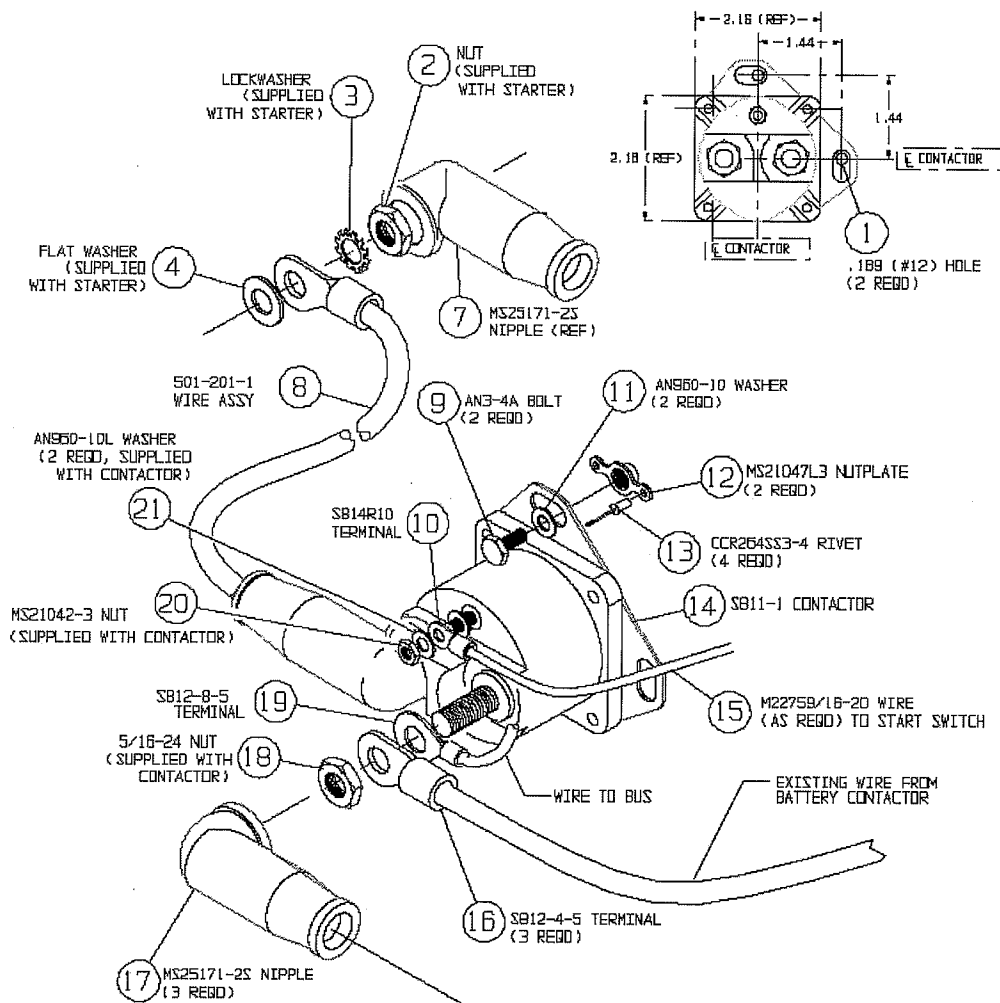

Figure 1
- Step 10. Referring to Figure 1, select location on firewall for new starter contactor (14). The new contactor mounts on nut plates. Location selection should be within wiring range of existing starter wire from battery contactor. In addition, the location needs to be within wiring range of the supplied wire assembly (8) which carries current from contactor to starter. Check cockpit side of selected location for clearance to existing wire bundles, plumbing or other obstructions.
Step 18. Referring to Figure 1, route remaining push-button lead wire to the starter contactor location on firewall. Cut to length and install terminal (10). Attach wire to contactor using nut (20) and washers (21).